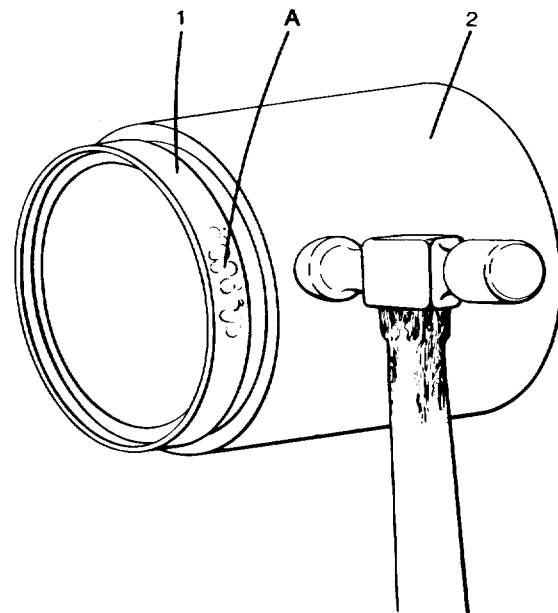

Fig. 2
- (b) Unbolt and remove the end cap (20). Remove the spacer (19).
- (c) Unbolt and remove the four end caps (14). Remove cover plate mounting capscrews. Two puller holes are provided in the outer edge of the cover plate. Insert two 3/8" N. C. capscrews in the puller holes. Tighten the capscrews equally, after they make contact with the housing, to remove the cover plate (10) without binding.
- (d) Remove the driven gear (22).
- (e) Remove the four cluster gears (8).
- (f) Remove snap ring (15) which retains the drive gear (26). Remove the drive gear.
- (g) Remove the planetary brake assembly (7) from the housing (9).
- (h) Remove the planetary housing (9) from the side housing gear (28).
- (i) The side housing gear may be removed from the shaft (1) if desirable.
1.3 Wear Sleeve Removal (Fig. 2)
- (c) Remove capscrews (4) which connect brake cylinder (5) to bracket.
- (d) Remove cylinder (5), push rod (6), and push rod seat (3) from bracket.
- (e) Insert tie bolt (2) through brake spring (3) (Refer to Fig. 2). Tighten bolt. This compresses springs (3). Remove rollpin (1).
- (f) Loosen tie bolt. This releases spring tension. Remove tie bolt (2) and springs (3).
- (g) Remove adjusting bolt and nut (9). Remove standoff spring (10) which fits between ends of brake bands.
- (i) Remove capscrew and rod end from pin (1). Remove pin which connects the other section of brake to anchor rod. Remove brake band.